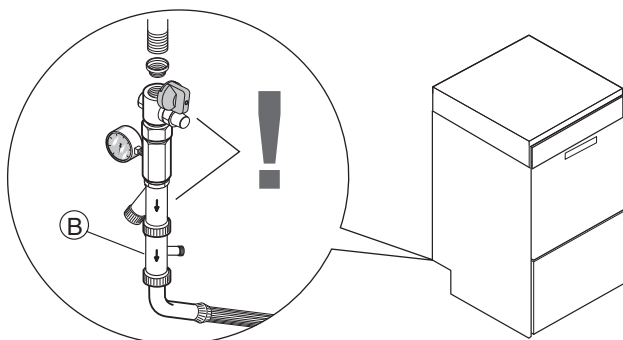

Figure 8 Supply pipe connection
**Machines marked Watermark must be installed in conformity with AS/NZS 3500.1, and the non-return device supplied with the machine must also be installed (B - Figure 8). The drain must comply with 3500.2.**
- Connect the equipment water pipe "WI" (see par. G7 "Installation diagram") to the water supply, interposing a tap, the filter (if provided) and a pressure gauge (Figure 8).
**If the equipment is replaced, always use the new inlet hose provided. Be sure that the non-return valve "B" and the filter supplied are fitted correctly as shown in Figure 8.**